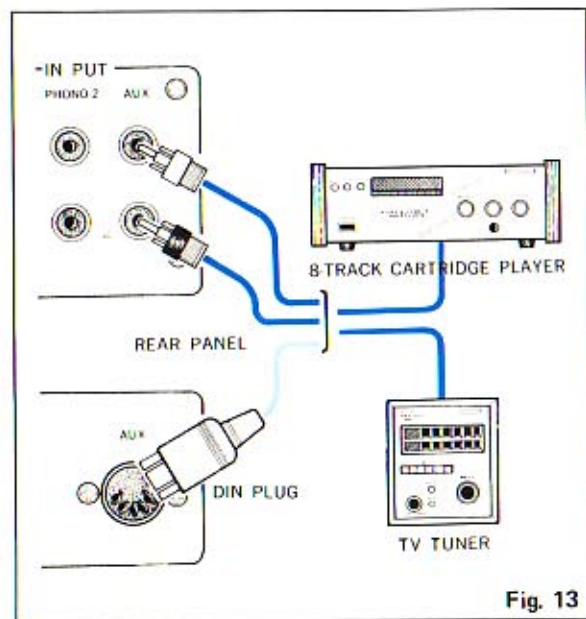

Fig. 13
The Aux jacks on the rear panel are for connecting other sound source equipment such as an 8-track cartridge player, television or other tuner. If the connected unit is monophonic, connect to the left (L) jack only, and set the Mode switch to Mono. Use these jacks instead of the Phono jacks for connecting a turntable with a crystal or ceramic cartridge. Be sure to set the Function switch to Aux when listening to any unit connected to these jacks. See Fig. 13.